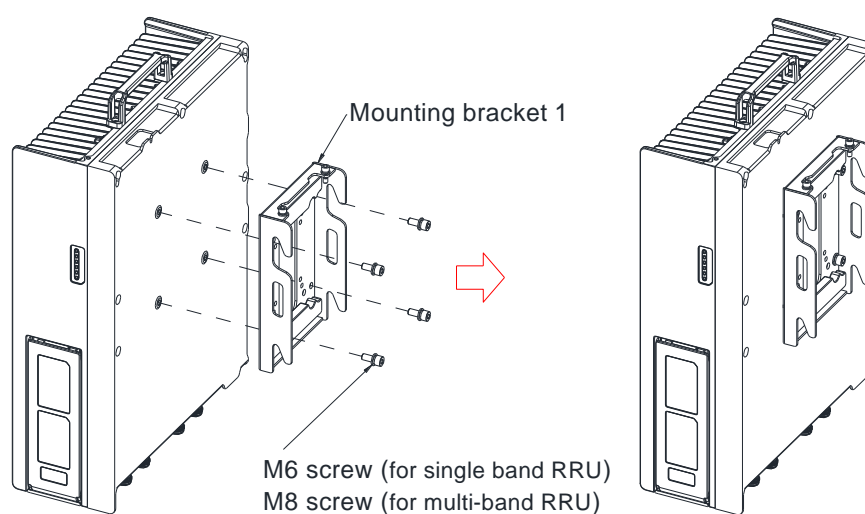
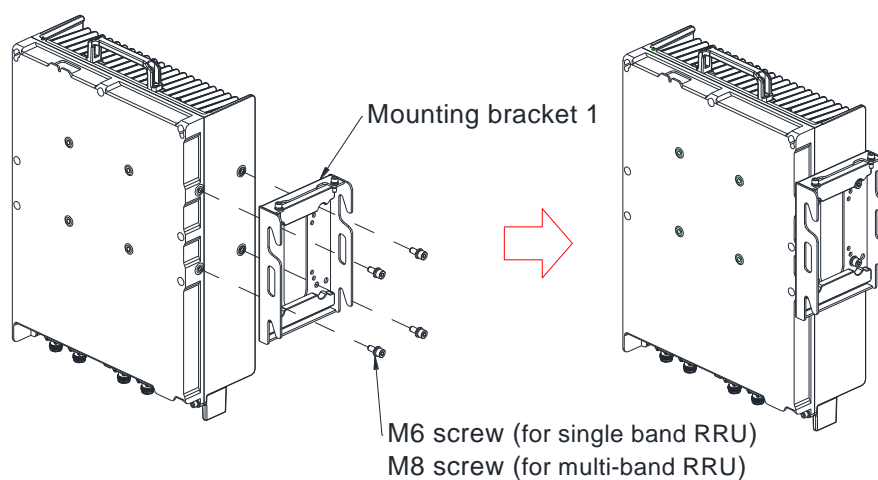

Figure 3.7-5 Fix Bracket 1 on RRU, Front Mount
Figure 3.7-6 Fix Bracket 1 on RRU, Blade Mount
Step 2: Use 4 screws (M6 for single band, M8 for multi-band) to fix the bracket 1 on the back or side of RRU as shown in Figure 3.7-5 and Figure 3.7-6.